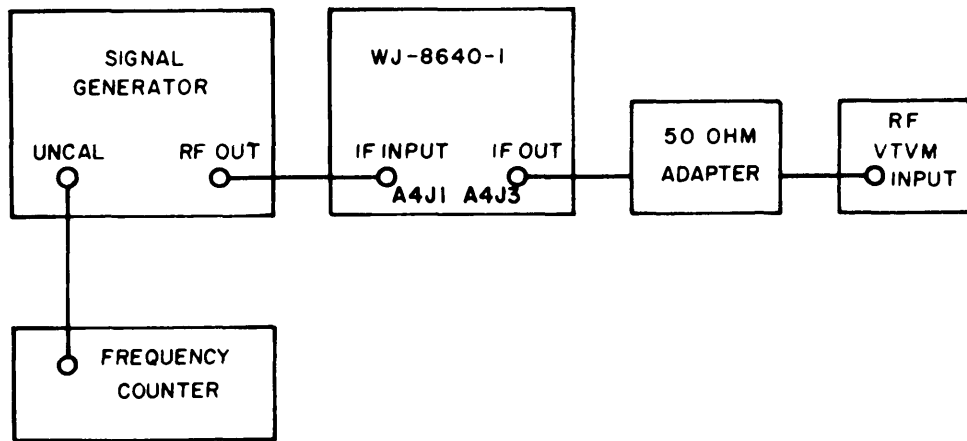

Figure 4-3. Test Setup, If Bandwidth and Center Frequency Circuit
- (1) Construct the circuit as shown in Figure 4-3.